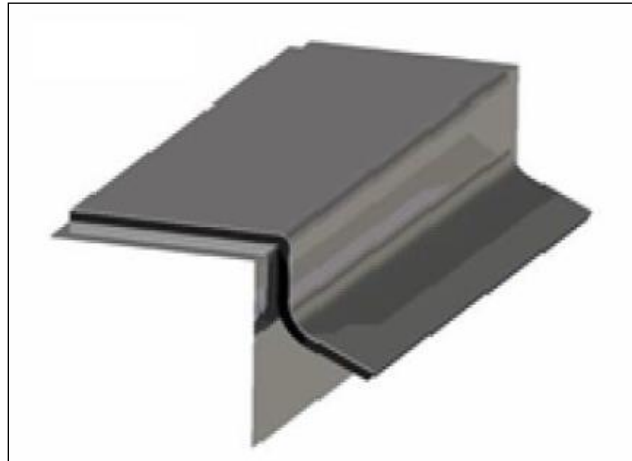

Figure 3
- 4.2.10.7. Slowly peel off enough backing paper to cover the edge and side of duct. Slowly pad the adhesive to the edge; do not pull the insulation on the duct corners. Guide the insulation over the corner by pressing lightly (Figure 3).